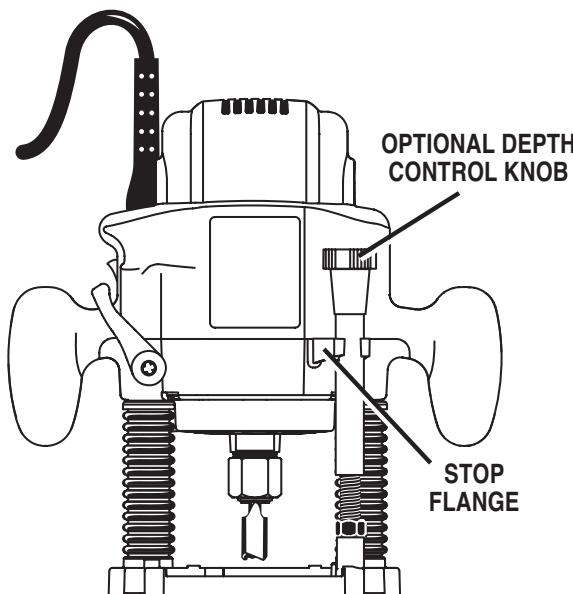

Fig. 8
*See Figure 8.*
- Place compression spring on top of hex nut as shown in *Figure 8*.